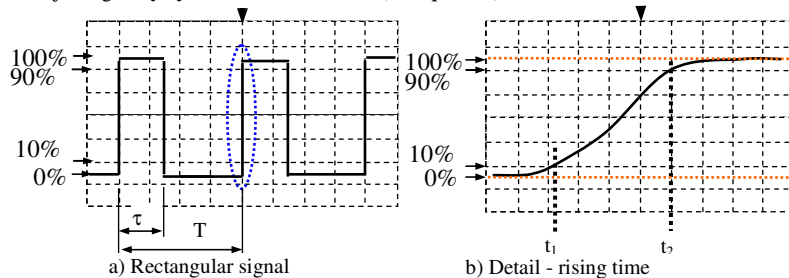

Figure 3: Measurement of rising time
In addition, the rectangular wave also has specific parameters (Fig. 3):
screen so that the min and max are to the 0% and 100% indications (Fig. 3). This adjustment is necessary so that the 10% and 90% signal levels correspond to visible division limits (in this case, the second division from the top and from the bottom), allowing us to read moments t_1 and t_2 with minimum errors.
Remark 2: In order to view the rise time like in Fig. 3 b), zoom in to the image in Fig. 3 a) (blue area) from the sweep button (SEC/DIV) - decreasing the value of C_X .
Remark 3: When we zoom into the image, the part of the image that is kept is the one around the trigger moment (the vertical arrow from the top of the display – arrow 3 from Fig. A2 from ANNEX A). In the case of the example in Fig. 3 a), the part that is kept when zooming is the one framed in the dotted oval shape.
where t_1 , t_2 represent the moments (horizontal) at which the signal has values corresponding to 10%, and 90% (vertical) respectively of U_{PP} considered as 100% (Fig 3).
- set C_Y such that the signal (*low* and *high* values) fits between the 0 and 100% indications on Fig. 3 (they do not appear explicitly on the screen).
- from the sweep knob (**SEC/DIV**) zoom in such that the signal slope is „widened” and displayed like in Fig. 3 b) (the whole rising slope of the screen should occupy as much of the display area as possible, without exceeding it). If the vertical arrow moves, bring it again to the center of the display. Remember that the zoom effect is with respect to the moment marked by this arrow.